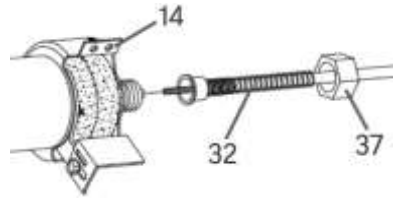

Fig. 4
1. Insert the flex shaft (#32) to the wheel cover (#14) (Fig. 4).
2. Tighten the shaft connector nut (#37) over the threads on the wheel cover (Fig. 4).